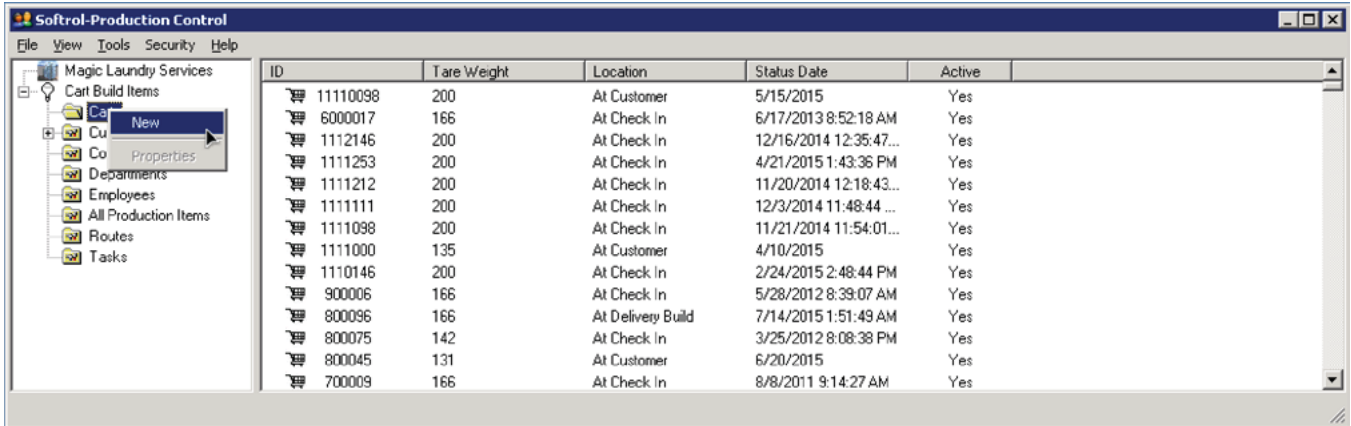
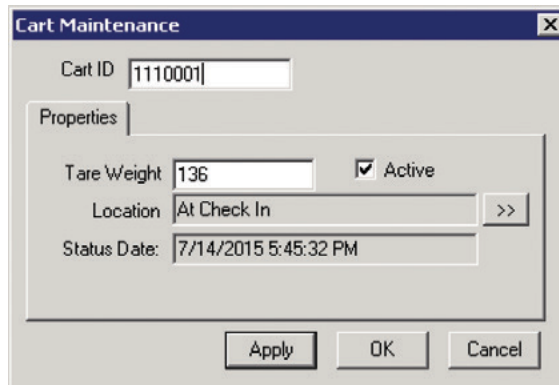

Figure 11. Right-click **Carts**, and select **New**.
Figure 12. *Cart Maintenance* dialog.
2. Right-click on the highlighted **Carts** item and select **New** (see Figure 11) to open *Cart Maintenance* (see Figure 12).